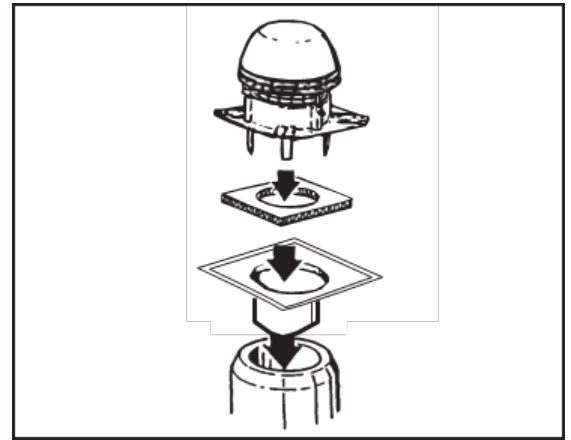

FIGURE 34
7. The chimney fan is now ready for installation on the top of the chimney. Place the fiber mat with the aluminum foil facing upwards on the top of the MFD and place the fan on top of the mat. High temperature silicone can be applied on the side of the mat but is not required. It can also be painted Use the mounting holes on the fan base as a drill template to make one mounting holes in each corner of the adapter. Use bolts and locking nuts to secure the fan to the MFD. **(Figure 34)**